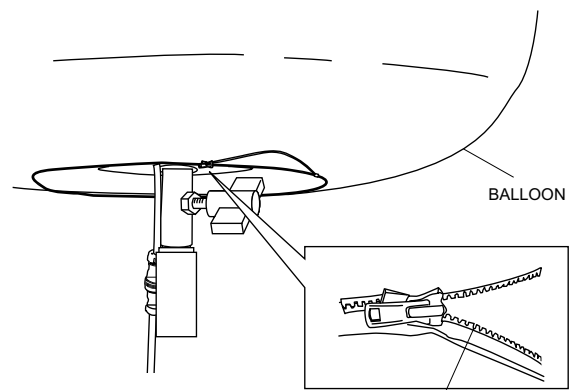

Figure 24. Unzipping Balloon
1. Unzip the bottom of the balloon. See Figure 24.